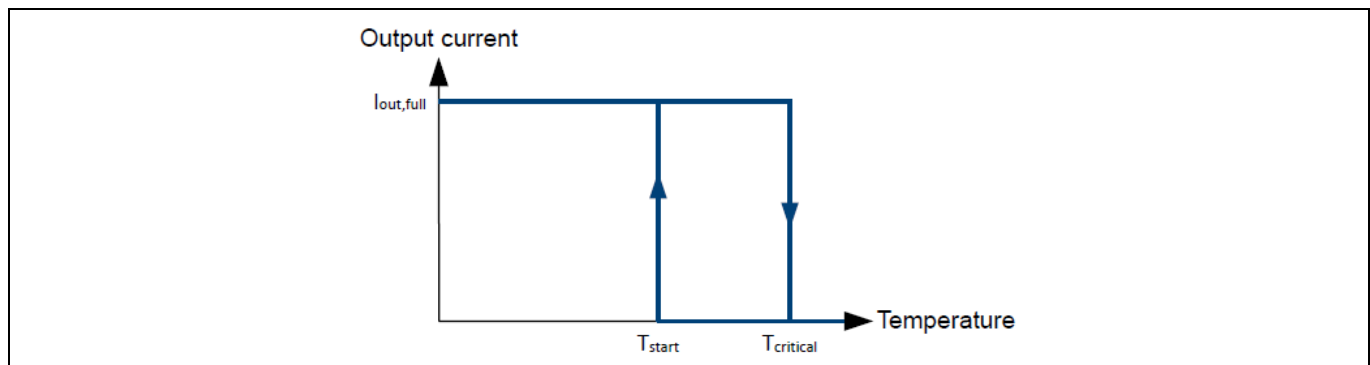

Figure 27 Internal over-temperature protection
- Internal over-temperature protection: it initiates a shut-down once the critical temperature level $T_{critical}$ is exceeded. As shown in **Figure 27**, once the internal temperature sensor exceeds $T_{critical}$, XDPL8221 will trigger internal over-temperature protection. If the controller is configured to react with auto-restart, it will only restart after the temperature drops below T_{start} .